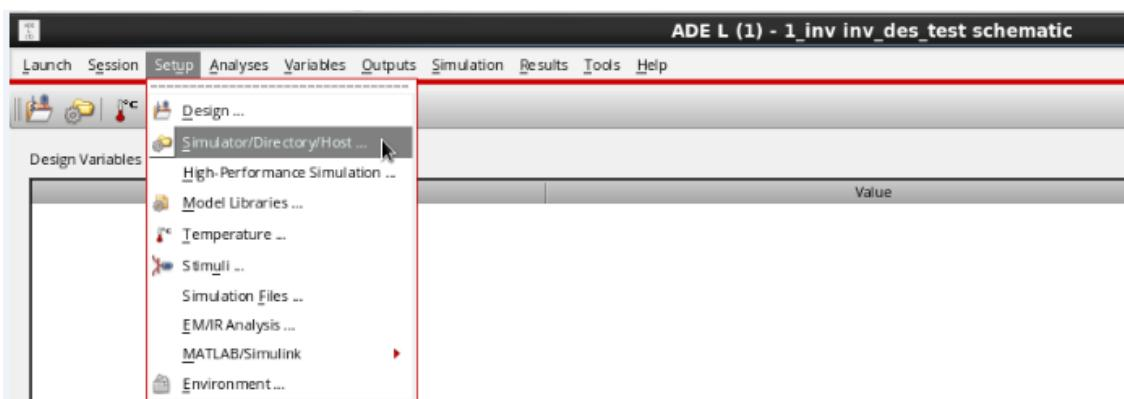

Figure-44(a)
- (1) **Simulator** – to make sure that **Spectre** is the simulator selected [Figure-44(a) & 44(b)]